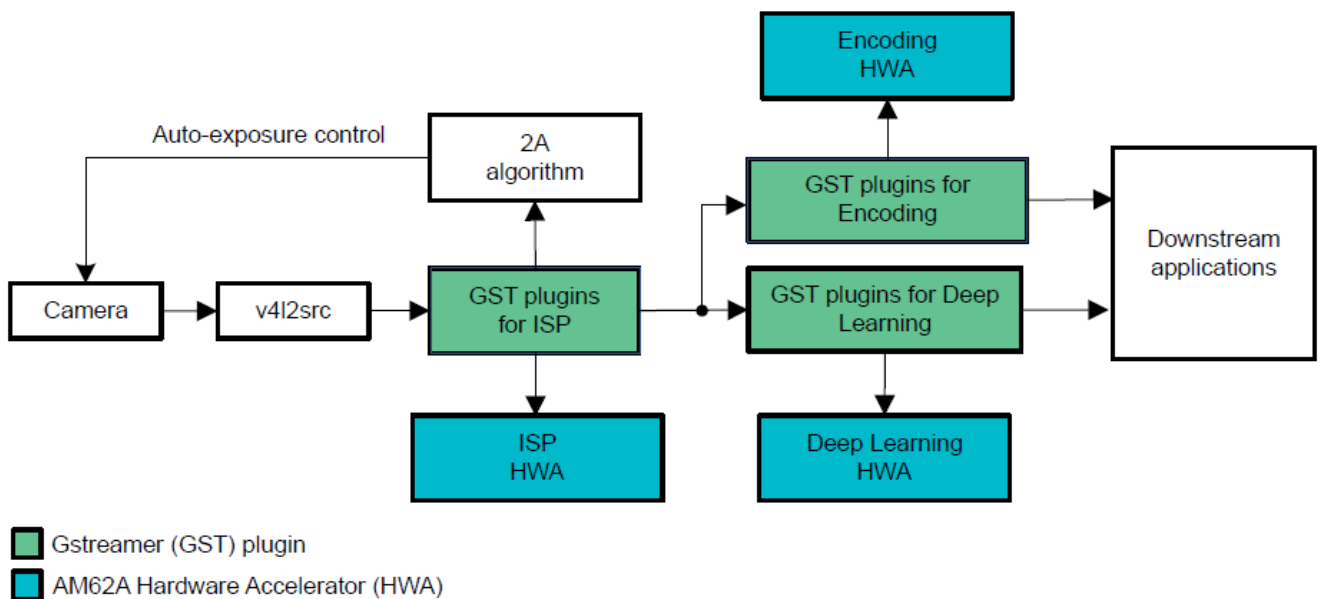

Figure 3-2. A Typical AM62A Image Pipeline Using GStreamer
- Figure 3-2 shows the block diagram of a typical image pipeline from the camera to encoding or deep learning applications on AM62A. For more details about the end-to-end data flow, refer to the EdgeAI SDK documentation.